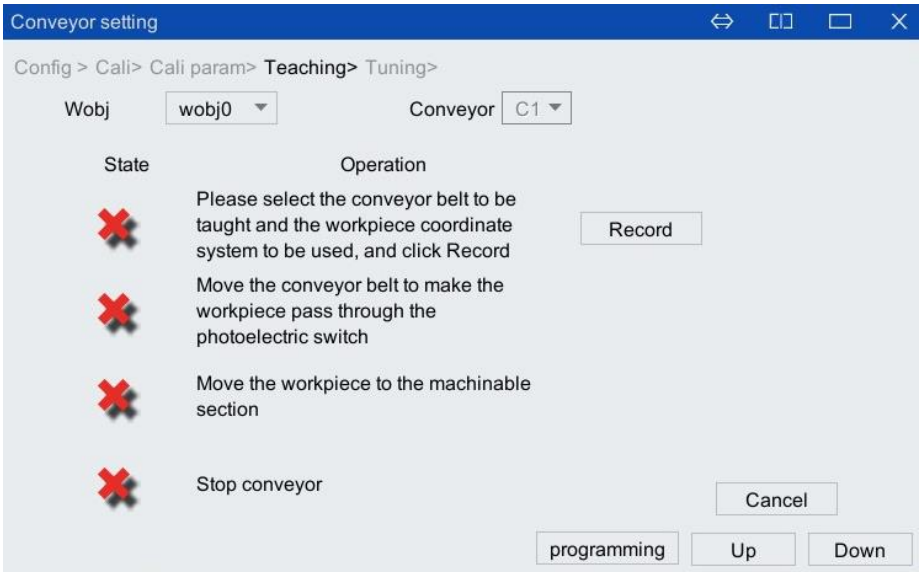

Figure 5-42 Conveyor belt teaching interface
Step16. Click <Down> to enter the "Teaching" interface, as shown in Figure 5-42. The teaching steps are as follows: